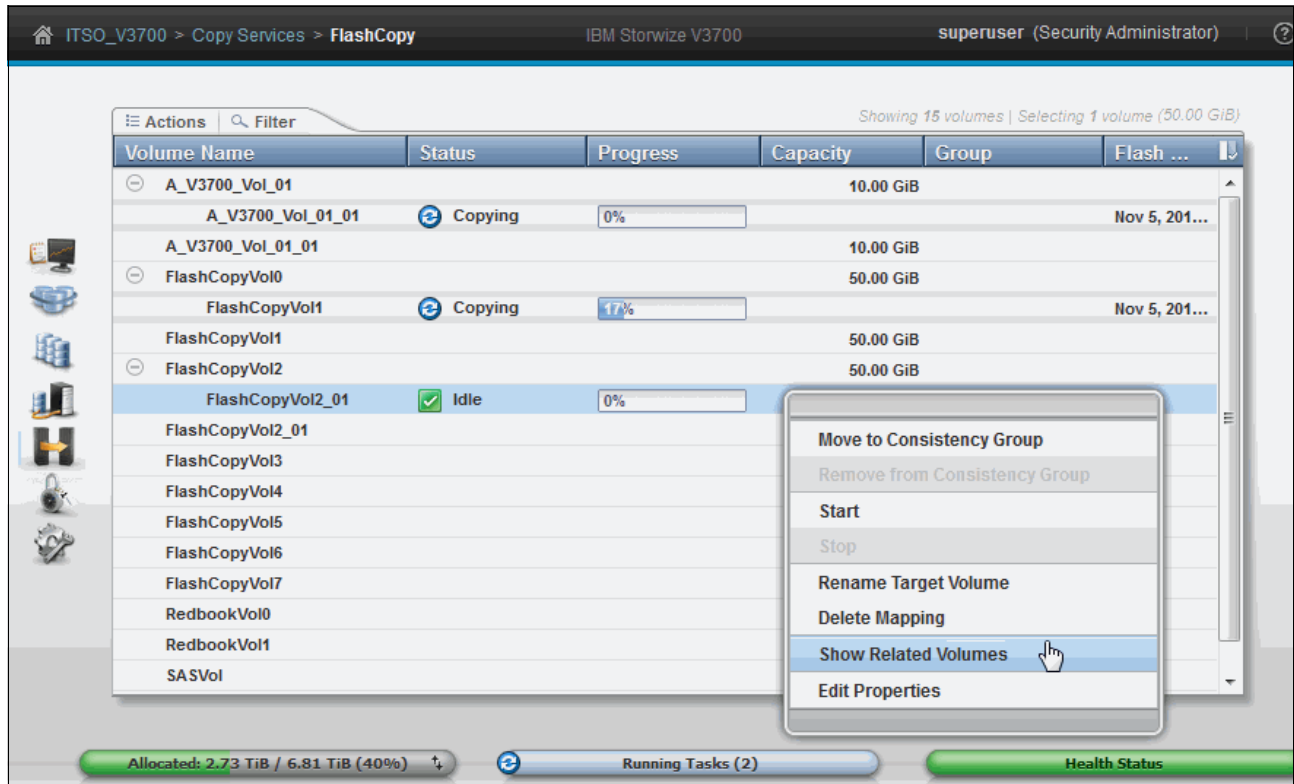

Figure 10-38 Show Related Volumes menu
2. Click **Show Related Volumes** in the **Actions** menu (as shown in Figure 10-38) or right-click the selected volume.